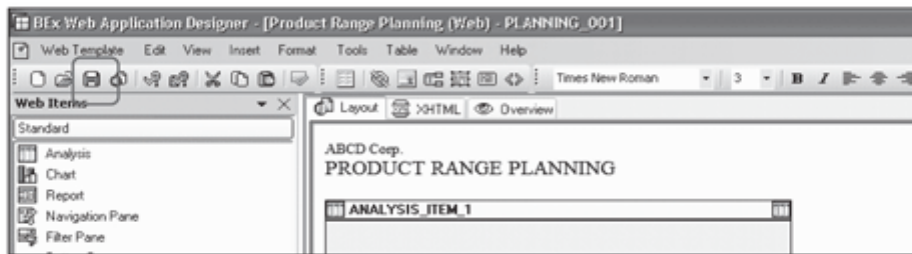

Figure 12.103 Save the Planning Application
17. Your web-based application for product range planning at the divisional level is ready. Save the application by saving the web template (Figure 12.103).